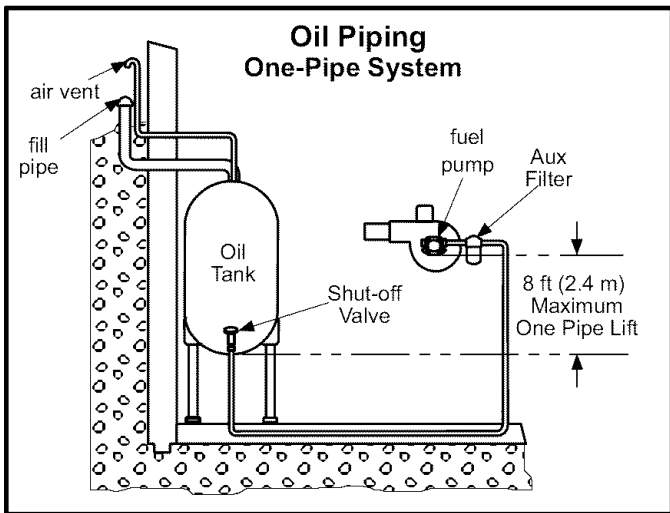

Figure 14
When using a one-pipe system with the oil tank above the burner and a vacuum of 6" (152 mm) Hg or less, a single-stage fuel pump with a supply line and no return line should be adequate. See figure 14. Manual bleeding of the fuel pump is required on initial start up. Failure to bleed air from the oil pump could result in an air lock/oil starvation condition.
- 2 - Arrange the primary burner control for continuous operation during purging. See figure 14.